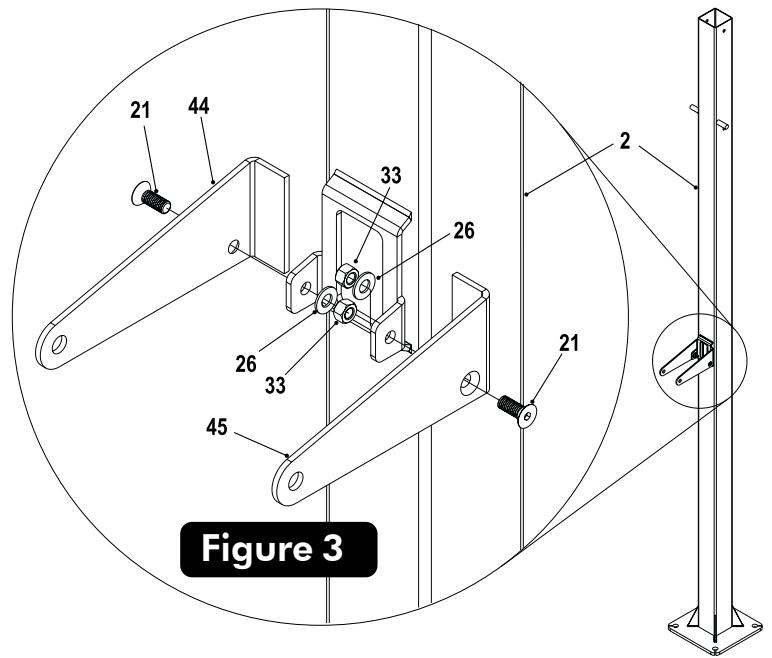

Figure 3
1. Slide Right Post Ear (#44) and Left Post Ear (#45) behind bracket on back of Post Assembly (#2). Using allen wrench (#46) provided, secure Right & Left Post Ears to bracket using one Flat Head Bolt (#47), one flatwasher (#26) and one locknut (#33). See Figure 3.